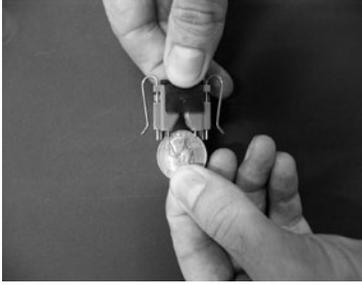

Fig 7
- Using a screwdriver or other metallic object, make a connection between the two pins on the Micro Sensor (fig 7). Unit should shut down after short delay.